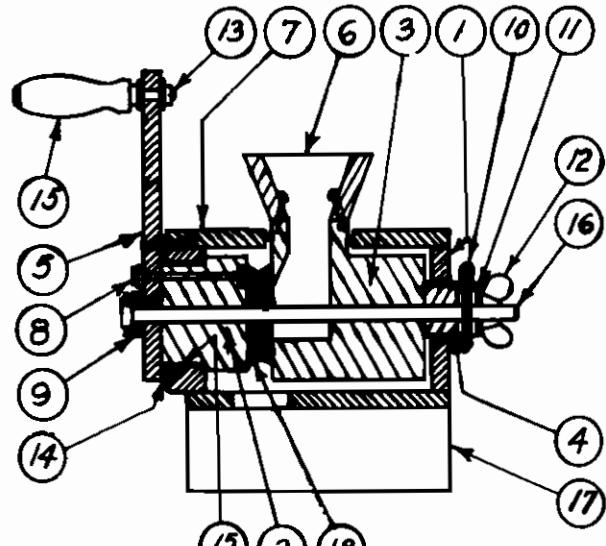

FIG. 2. ASSEMBLY DWG
Through the following discussion 1" lumber refers to the standard board thickness for surfaced sheathing lumber in the United States. It actually measures only about three quarters of an inch in thickness. All dimensions are in inches. Lumber used should be flat and well seasoned. The numbers in the next section refer to part numbers shown in Figure 2 and subsequent detailed part sketches.
6. Attach hopper to top of stationary burr holder with screws. See Figure 2.